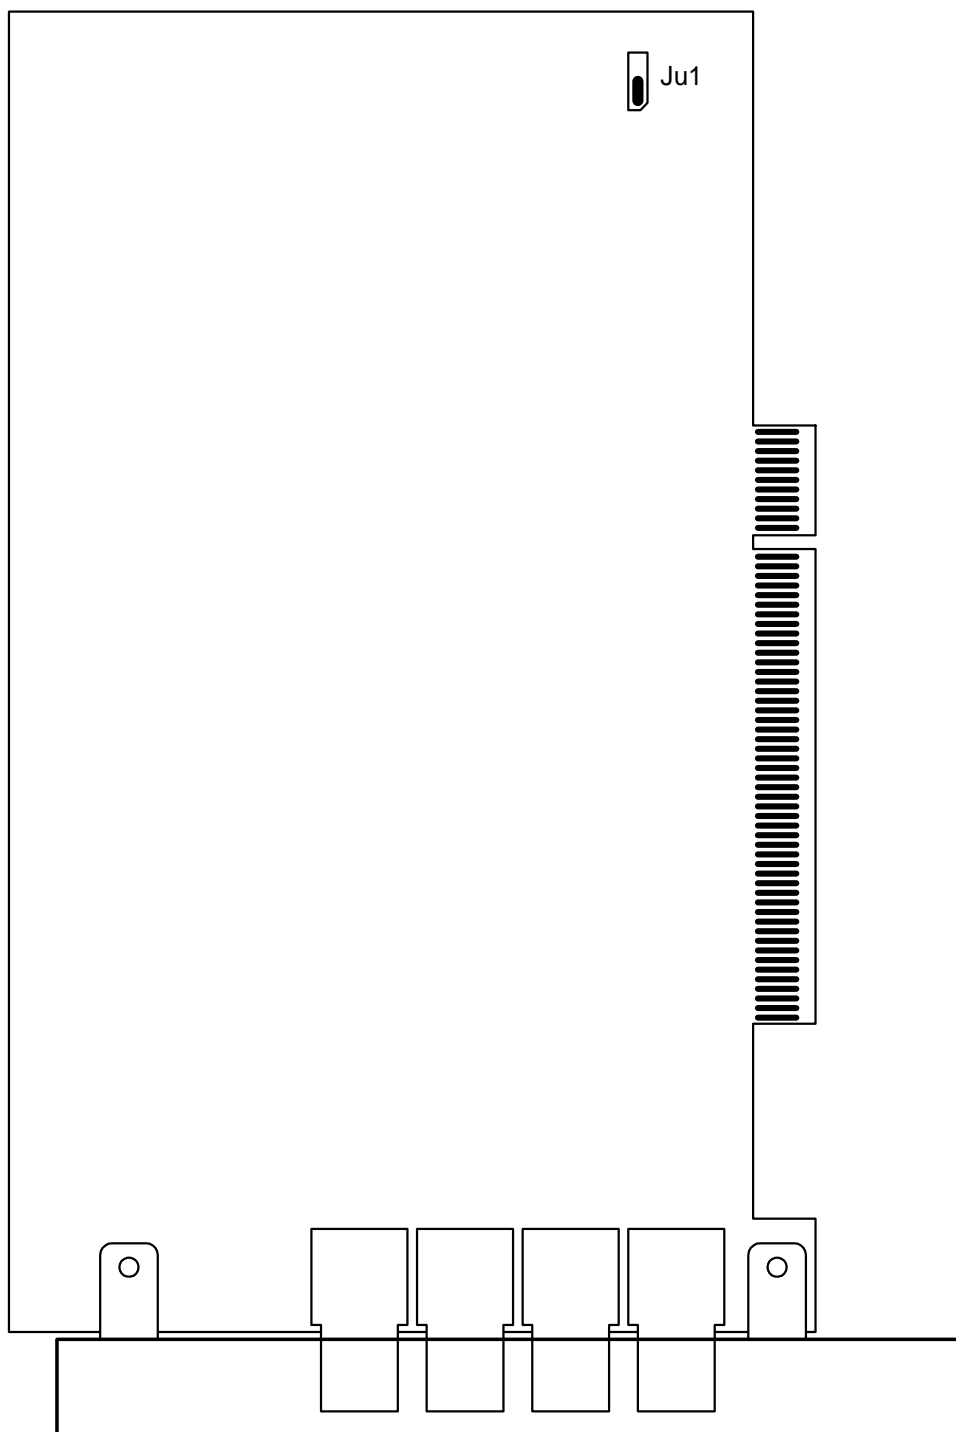

Figure 2 - Board Layout
5. Make sure that jumper Ju1 on BBK-PCI is seated as illustrated in Figure 2.